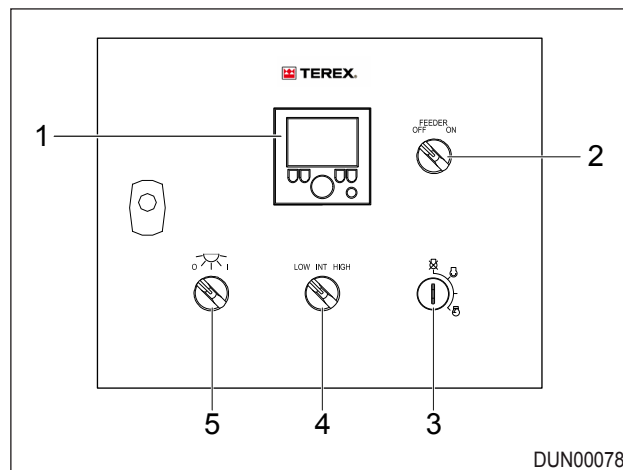

Figure 7.25 - Control Panel
1. To start the feeder turn the Feeder ON / OFF switch (item 2) on the control panel to the on position, Ref: Figure 7.25.